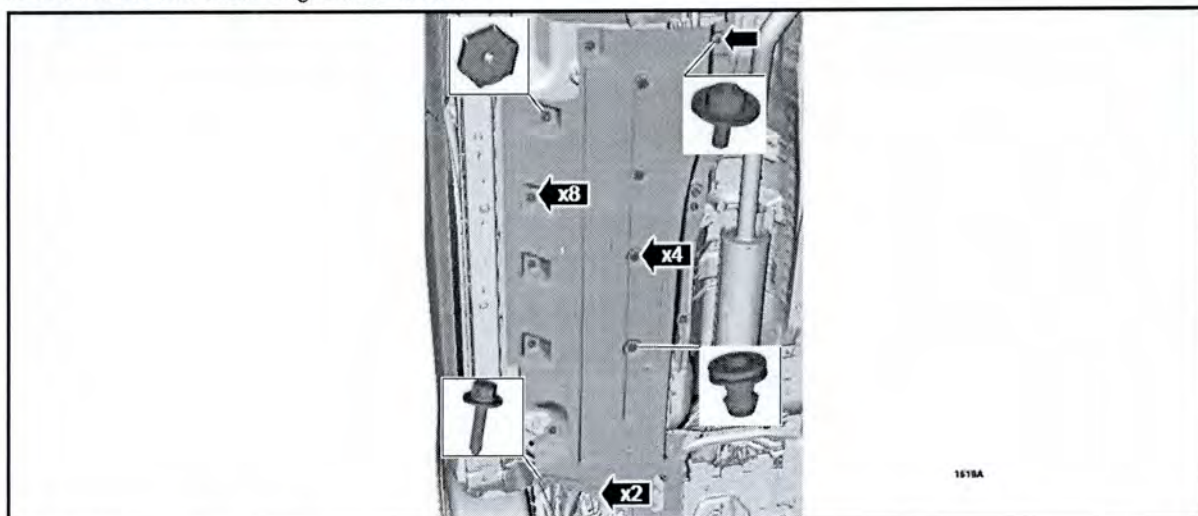

FIGURE 1
2. Remove both underbody side shields. See Figure 1.
2. *Install both underbody shields. See Figure 1.*